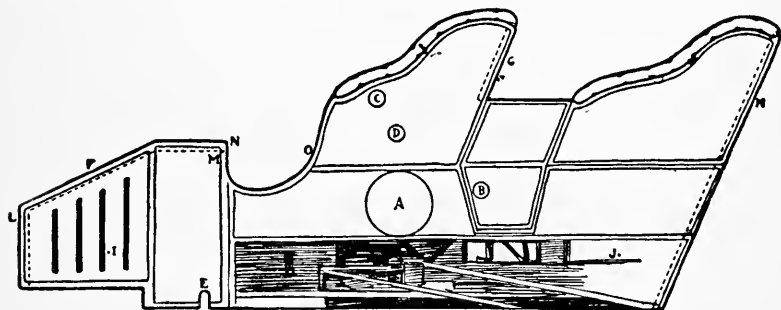
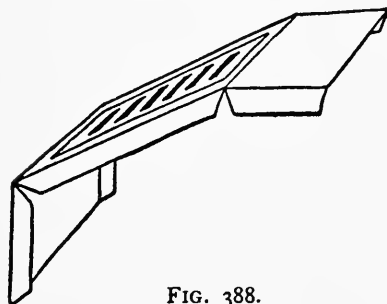

FIG. 387.—Cardboard Side of Automobile.
FIG. 388.
First prepare the two sides, cutting them out by the pattern of Fig. 378. Then glue the bottom edge of each side to the edge of the wooden frame, cutting holes in the left side for the belt-wheels and projecting posts to run through (see Fig. 375 and *A, B, C, D,* and *E*, Fig. 387). The top to the front of the car should now be cut as shown in Fig. 388, the distance between the sides being measured to get the piece of proper dimensions. Bend the edges as in Fig. 388, and glue them to the inner surfaces of the side-pieces as shown by the dotted lines in Fig. 387. In the same way cut and glue a piece of cardboard between the side-pieces at *G* and *H* (Fig. 387) for the seat-backs.
sharp knife. You can cut out between the spokes, if you wish, or leave them solid. Glue the wheels to the cardboard, placing their centres about as located at *I* and *J*, Fig. 387. Four
**Lamps** like Fig. 381, and glue end *K* of two upon the front of the automobile at *L* (Fig. 387) and one of the other two upon each side at *M*. These lamps are
pin, as shown in Fig. 389, bend the lower end and glue it to the under side of the cardboard top *F* at *N* (see Fig. 387, also Fig. 375). Make a
The **Brake**, and glued to the inside surface of the right side of the car at *O* (Fig. 387).
**Paint the Machine** to complete it. The photograph (Fig. 375) indicates the different colors used. The lamps, and top, ends, and sides of the front portion of the car should be painted the color of brass, and the rest of the sides, with the exception of a strip along the bottom and the edge of the arms, should be painted vermilion. Paint the inside of the car and the edges of the seat-arms tan color, to represent leather upholstery. With black paint, or ink, stripe off the door and trimmings upon the sides and top of the machine, as shown in Figs. 375, 387, and 388. Blacken the brake and steering-wheel and the spokes and rims of the wheels. Along the bottom of each side roughly indicate some machinery with black paint, about as it is drawn in Fig. 387.